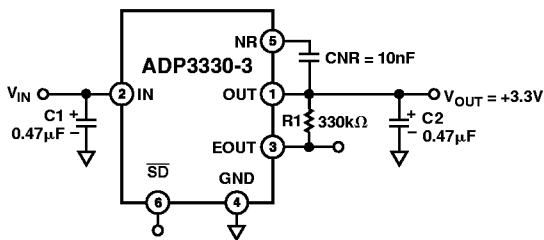

Figure 21. Noise Reduction Circuit
A noise reduction capacitor ( $C_{\text{NR}}$ ) can be used to further reduce the noise by 6 dB–10 dB (Figure 21). Low leakage capacitors in 10 nF–100 nF range provide the best performance. Since the noise reduction pin (NR) is internally connected to a high impedance node, any connection to this node should be carefully done to avoid noise pickup from external sources. The pad connected to this pin should be as small as possible. Long PC board traces are not recommended.